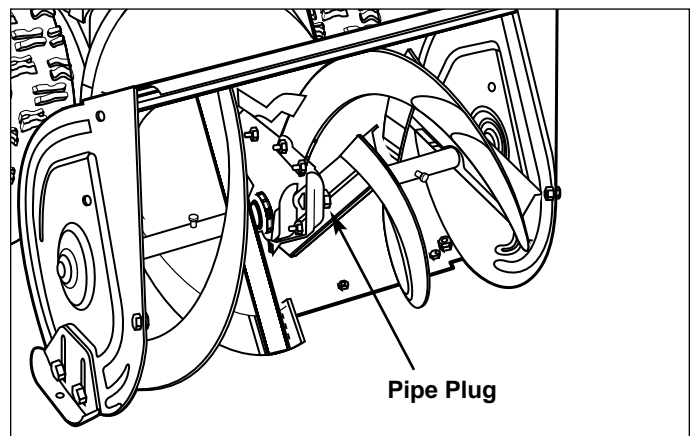

Figure 5. Checking Auger Gear Case Lubrication
1. Remove the fill plug (Figure 5). Fill the gear box with The Dealer Line Winter Weight Worm Gear Oil until the oil level reaches the bottom of the fill hole.